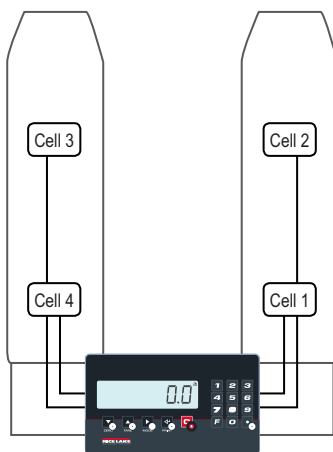

Figure 6-1. Load Cell Locations
23. Place a test weight about 1/8 of the maximum capacity on the location of load cell 1 (see Figure 6-1).
25. Move test weight to the location of load cell 2 (see Figure 6-1).
27. Move test weight to the location of load cell 3 (see Figure 6-1).
29. Move test weight to the location of load cell 4 (see Figure 6-1).